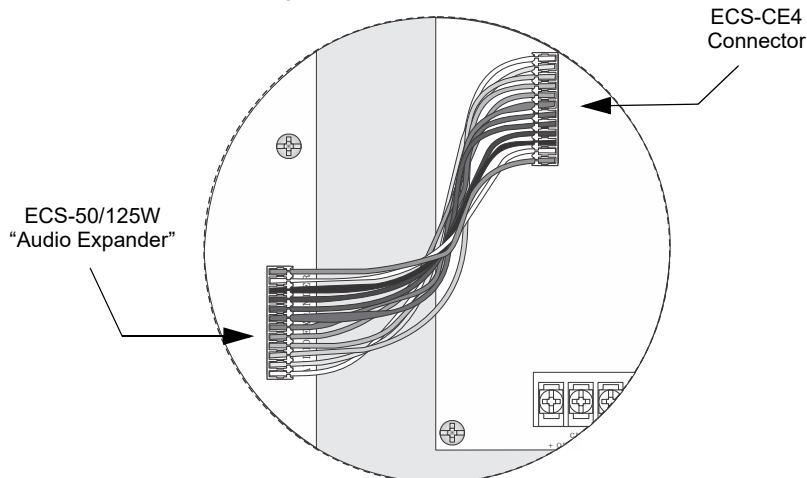

Figure 4.68 Audio Expander Wire Harness Connections
- Connect the audio expander cable harness (P/N 130426) from the connector labeled “Audio Expander” on the ECS-50W or ECS-125W to the connector on the ECS-CE4 as shown in Figure 4.68.